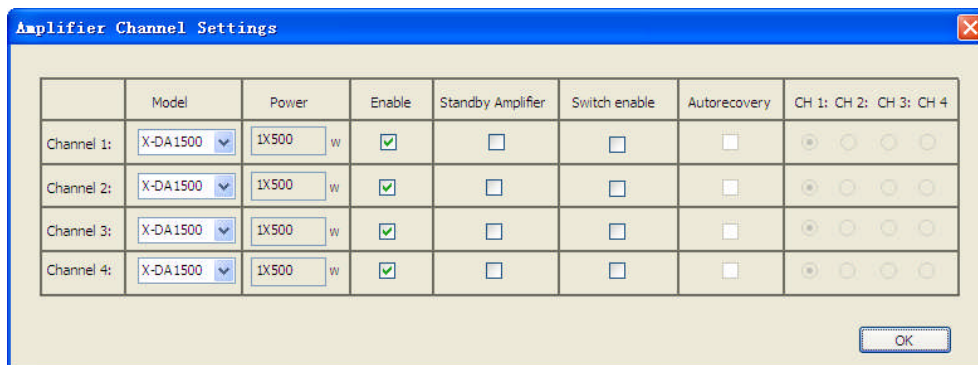

Figure 16 Amplifier Channel Settings window
1. Select the playlists to delete in the Play List Settings window as shown in the Figure 16.
1. Click **Amplifier** on the sub-system area on the right of the window as show in the Figure 7, the Amplifier Channel Settings window displays as shown in the Figure 16.